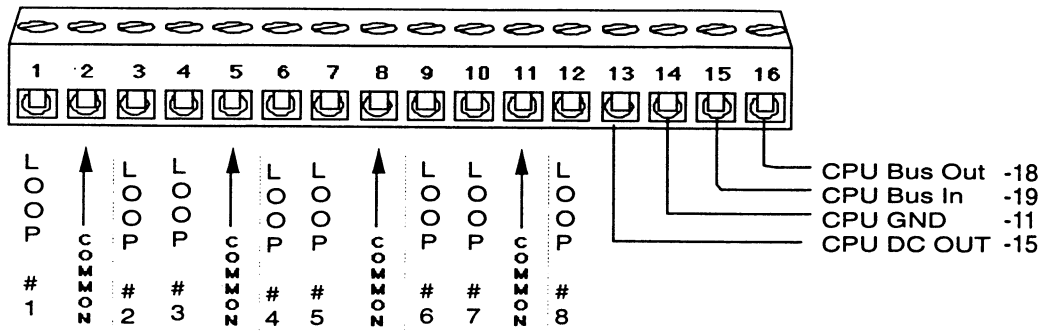

Figure 8.1. Terminal Connections
1. Using 22-gauge or greater wire, connect the HIM to the CPU (See Figure 8.1). Using 22-gauge or greater wire, connect your hardwire loops to the HIM. Verify that end-of-line resistors are installed properly (Normally Open in parallel, Normally Closed in series.)